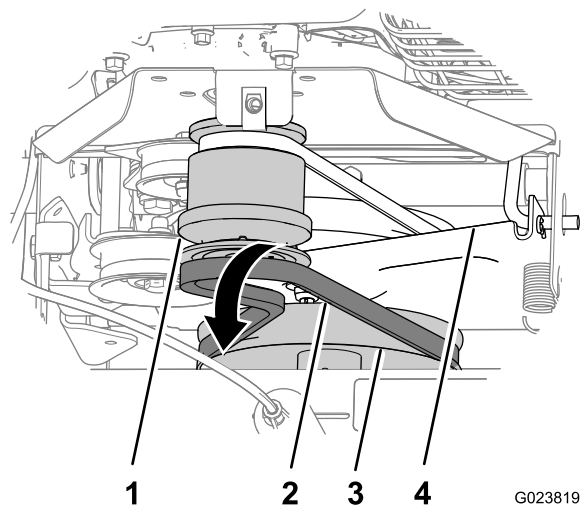

Figure 40
- Slip the belt forward over the forward groove of the engine pulley (Figure 40).
- Slip the belt off of the broom-gearbox pulley, move the belt rearward between the pulley and the traction-control bracket, and remove the belt from the machine (Figure 40).
- Align the replacement belt between the pulley and the traction-control bracket (Figure 40).
- Slip the belt onto the groove at the bottom of the broom-gearbox pulley (Figure 40).
- Slip the belt onto the forward groove of the engine pulley (Figure 40).